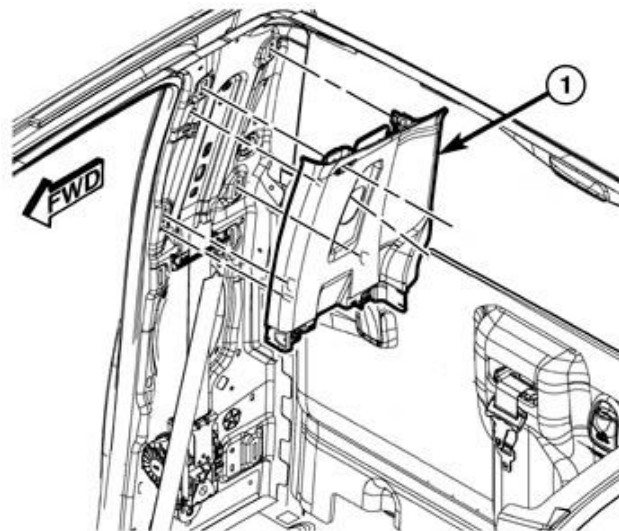

Figure 6 – B-Pillar Upper Trim Panel
- Release the retaining clips and remove the B-pillar upper trim panel (1) (Figure 6).
46. Install the B-pillar upper trim panel (1) and engage the retaining clips fully (Figure 6).